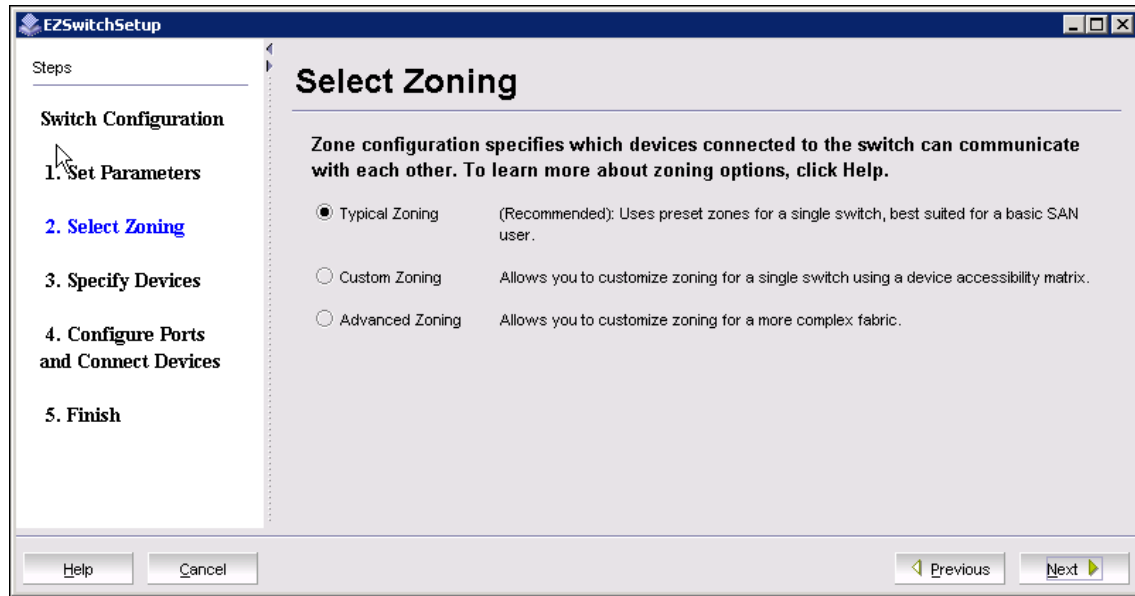

Figure 6-13 EZSwitchSetup - Select Zoning
9. After you set up these values, click **Next** to open the zoning configuration panel, as shown in Figure 6-13.